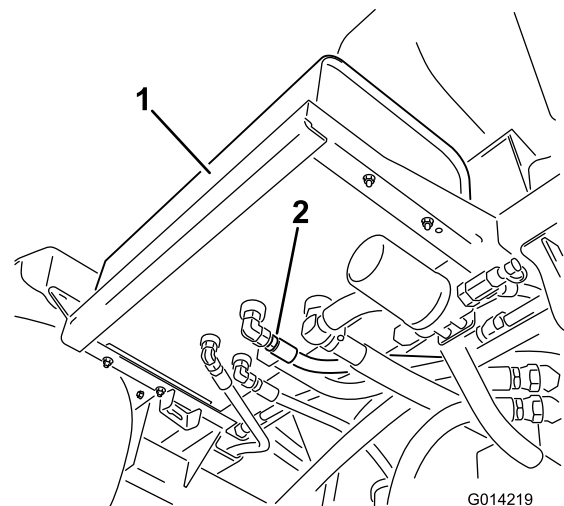

Figure 77
4. Remove the hose fitting from the tank, allowing the oil to drain into the pan (Figure 77).